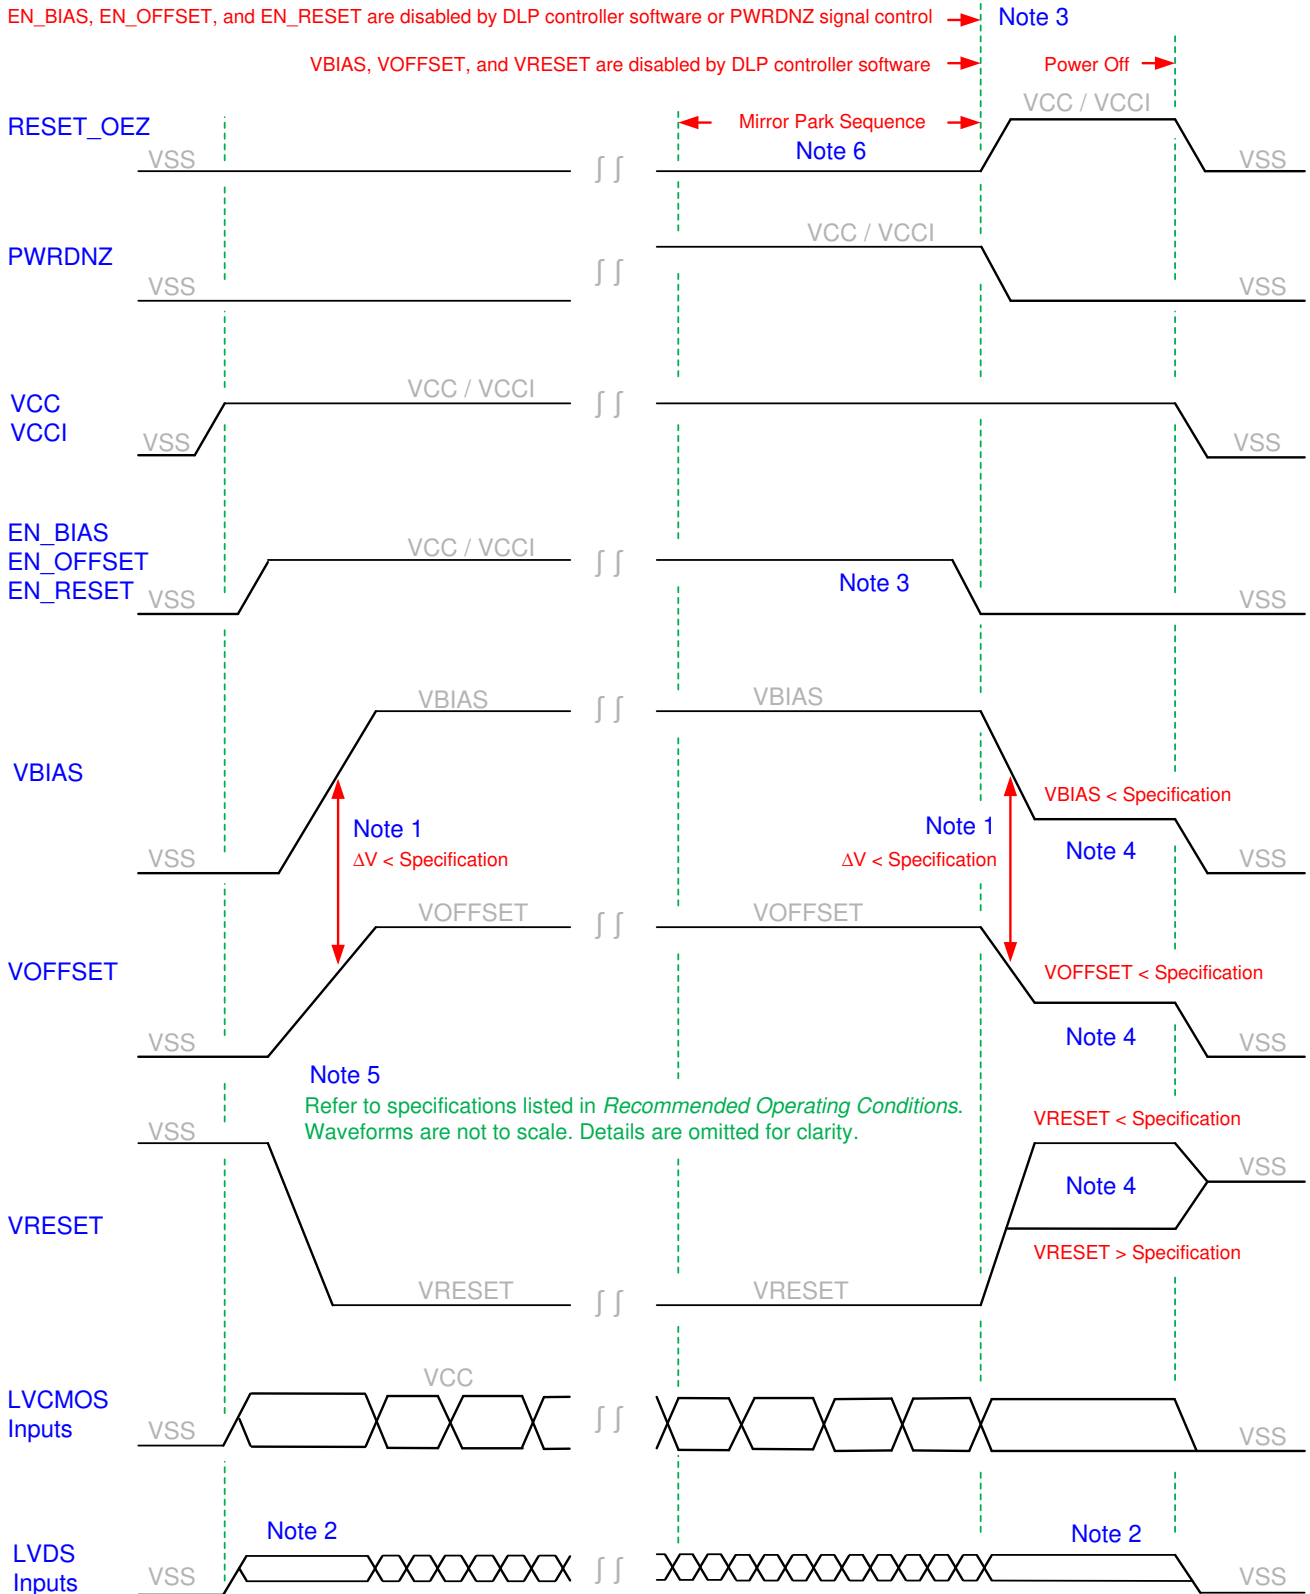

图 8-1. DMD Power Supply Sequencing Requirements
- Power supply slew rates during power-down are flexible, provided that the transient voltage levels follow the requirements listed in Absolute Maximum Ratings, in Recommended Operating Conditions, and in Figure 8-1.